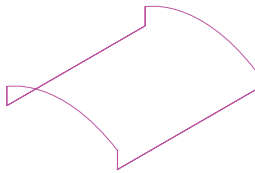

Fig. 17.28 Example – **Edgesurf** – adding lines joining the plines
7. With the **Line** tool, draw lines between the ends of the two plines using the **endpoint** osnap (Fig. 17.28). Note that if polylines are drawn they will not be accurate at this stage.